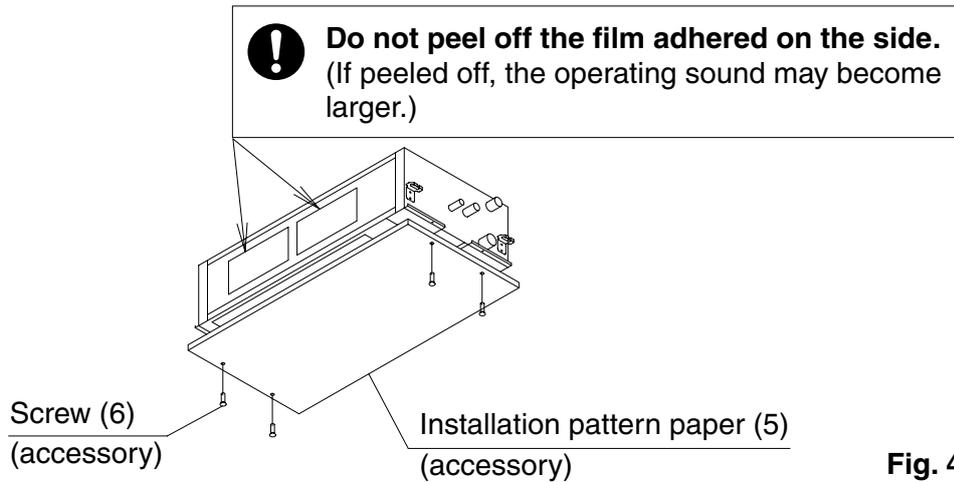

Fig. 4
- The center of the ceiling opening is shown in the installation pattern paper (5).
- Put the installation pattern paper (5) to the indoor unit bottom with four screws (6). (Refer to Fig. 4)